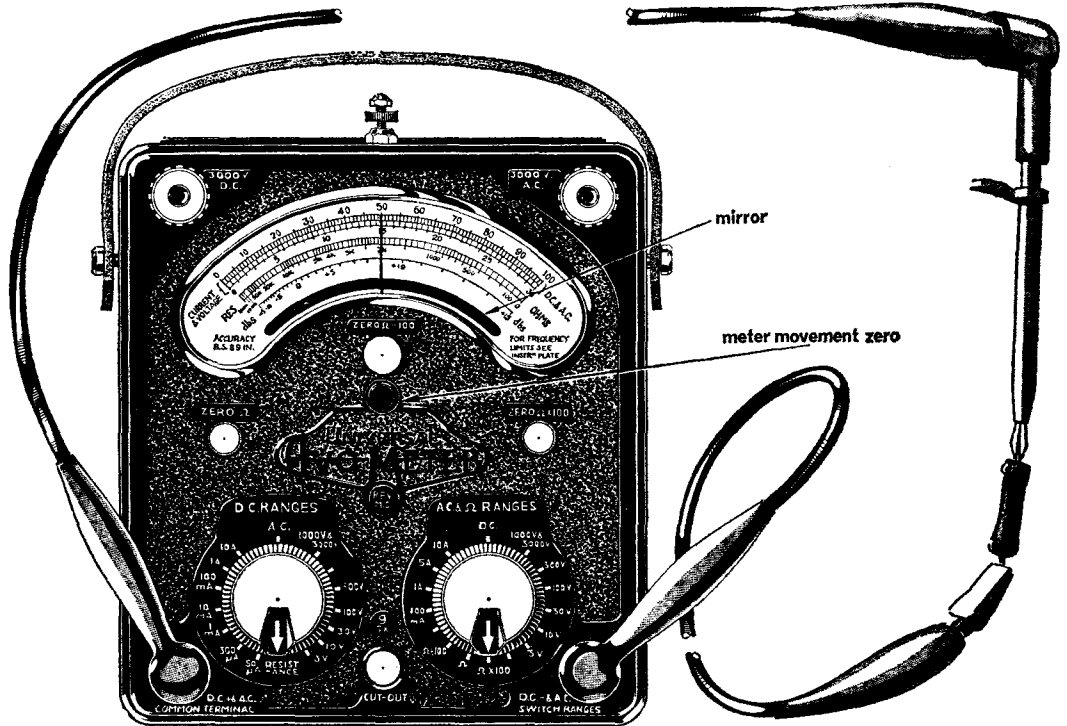

Fig. 4. Multimeter CT498
- b. If necessary the movement may be zeroed using the screw shown in figure 4.
- e. Set the left hand switch to resistance, and the right hand switch to the required ohms range. Connect the leads to the meter terminals shown in figure 4.